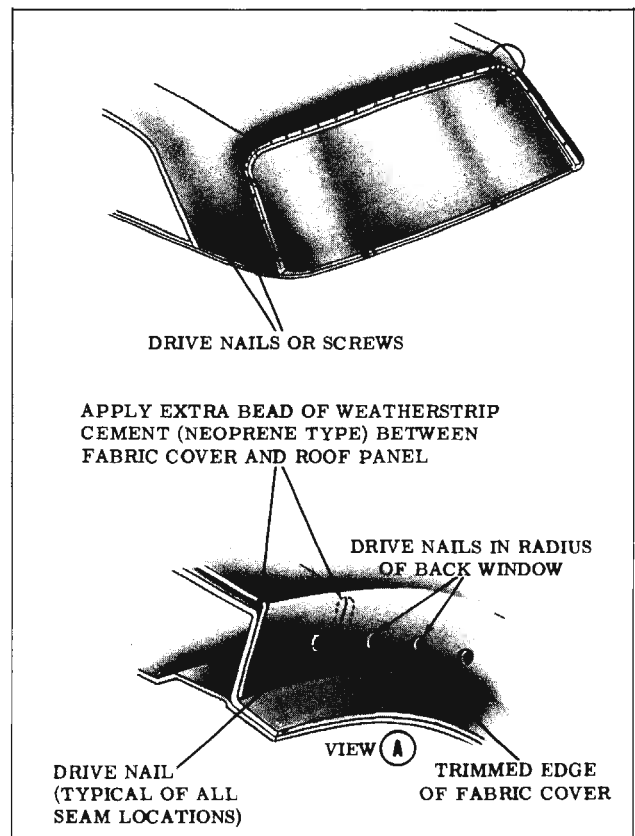

Fig. 16-332 Drive Nail Installation
15. At windshield and back window openings, cement cover into opening as shown in View "A", Fig. 16-332. Apply extra bead of cement to each side of dielectric seam between fabric cover and roof panel at windshield and back window openings. (View "A", Fig. 16-332)
17. Install screws (or drive nails) at belt line of rear quarter area. (Fig. 16-332)